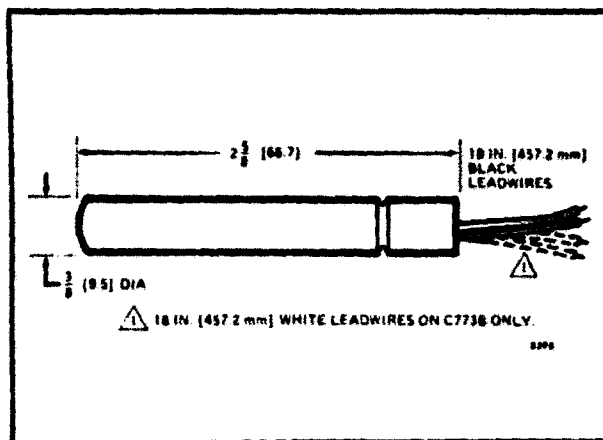

FIG. 2-C773A,B DIMENSIONS IN INCHES (MIL- METRES IN BRACKETS).
**DIMENSIONS:** See Figs. 2 and 3.